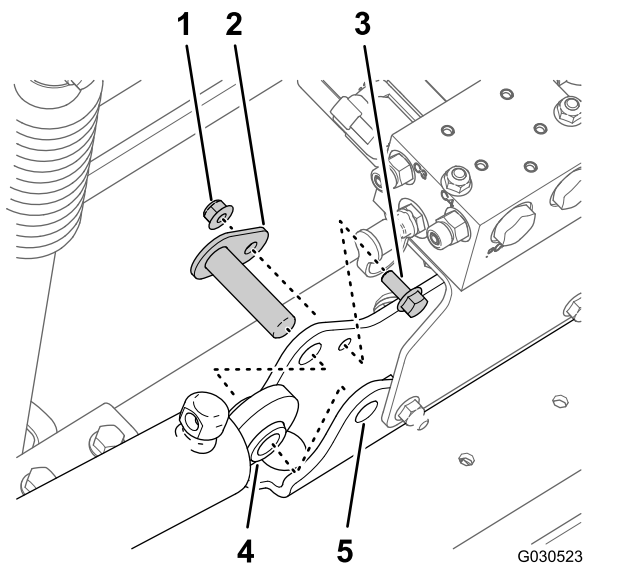

Figure 73
- Remove the flange locknut (5/16 inch) and flange-head bolt (5/16 x 3/4 inch) that secures the pivot pin to the cylinder mount (Figure 73).
- Remove the pivot pin and the lift cylinder from the machine (Figure 73).